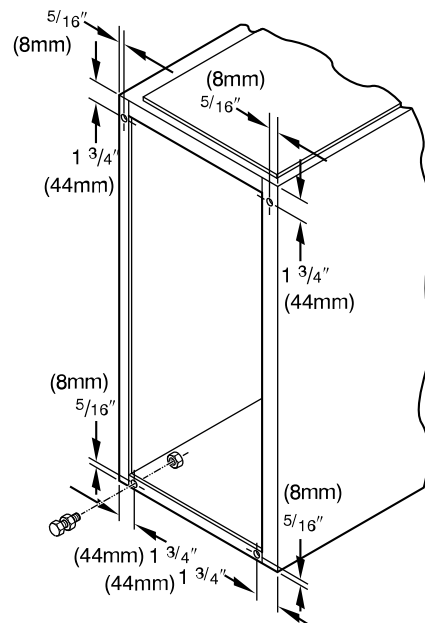

Fig. 16 – Leveling Legs
In upflow position with side return inlet(s), leveling legs may be used. (See Fig. 16). Install field-supplied, 5/16 X 1-1/2 in. (8 X 38 mm) (max) corrosion-resistant machine bolts, washers and nuts.
1. Position furnace on its back. Locate and drill a hole in each bottom corner of furnace. (See Fig. 16).